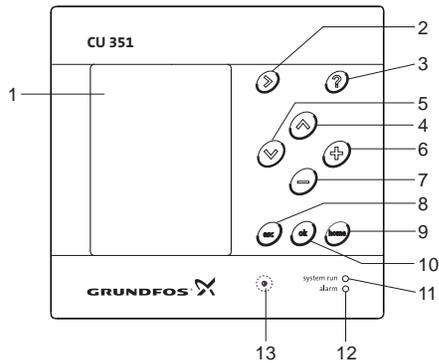

Fig. 6 Control panel
The buttons (pos. 2 to 10 in fig. 6) on the CU 351 are active when they are illuminated.
8.2.1 Arrow to the right (pos. 2)